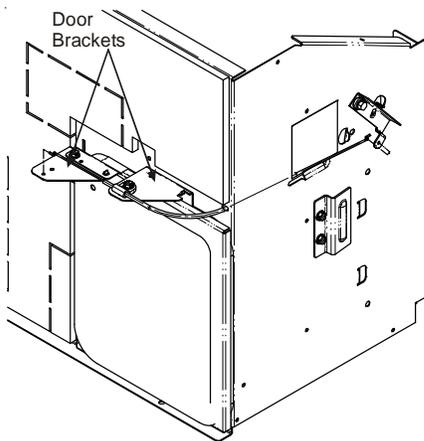

Figure 4
5. Remove 2 door brackets (Figure 4).